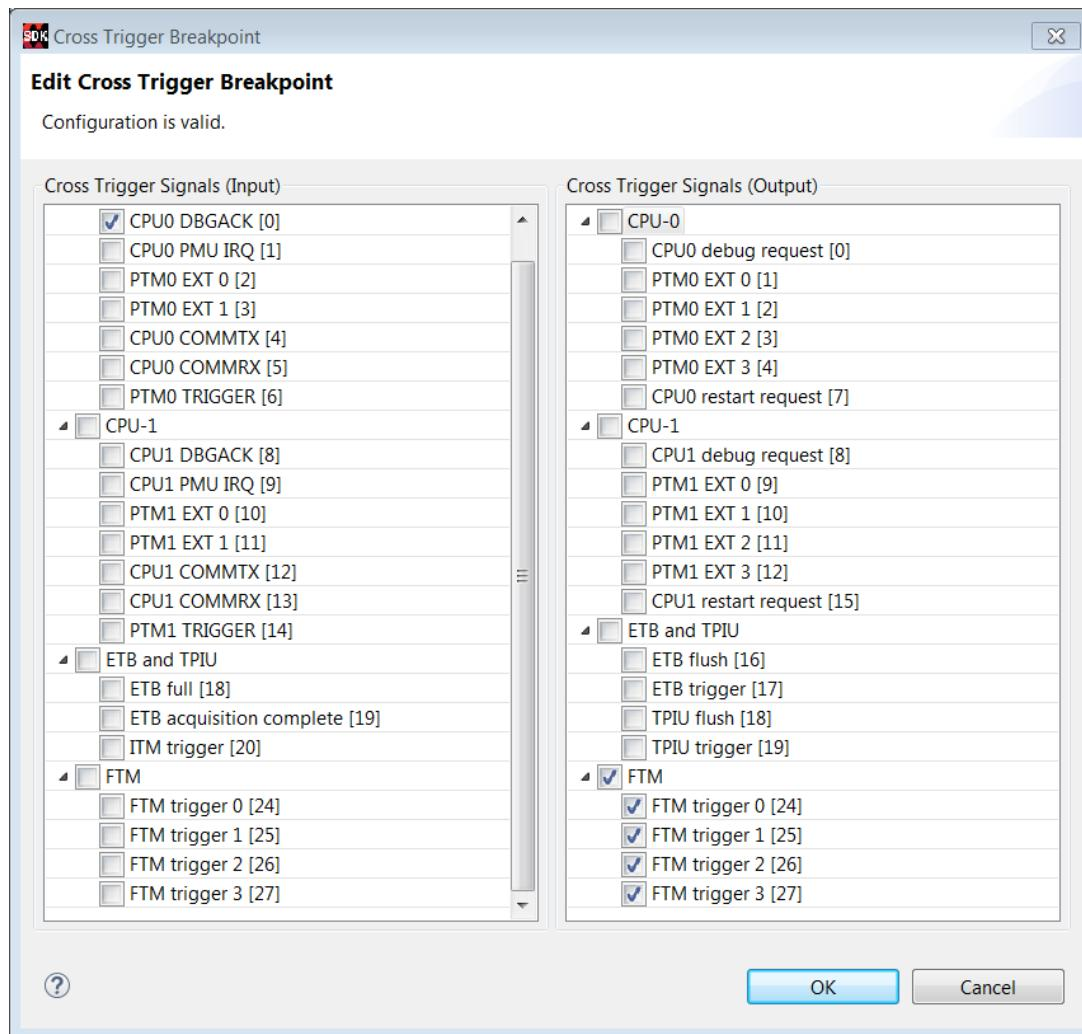

Figure 64: Setting Cross-Trigger Breakpoints for processor to fabric trigger
14. In the Create Cross Trigger Breakpoint page, select the options as shown in Figure 64.